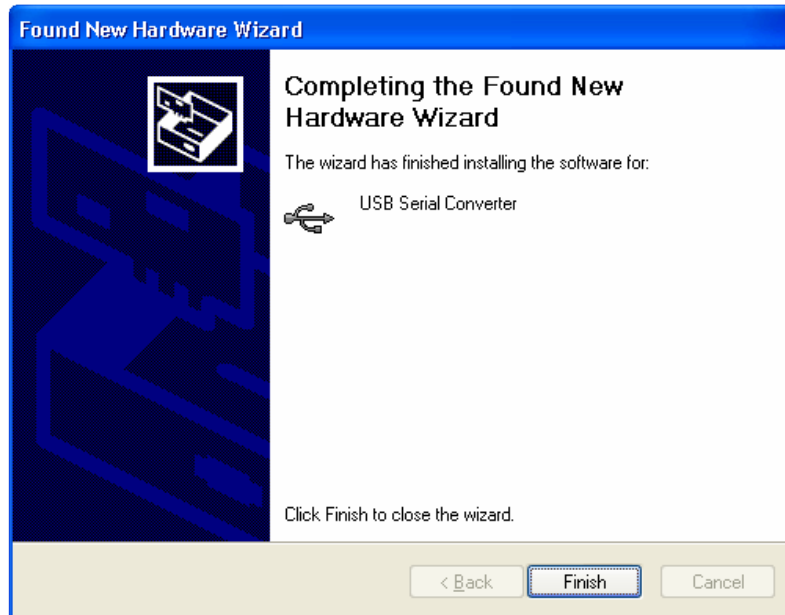

Figure 5. Installation Success Window
9. A window indicating that the installation was successful should now be displayed (Figure 5).